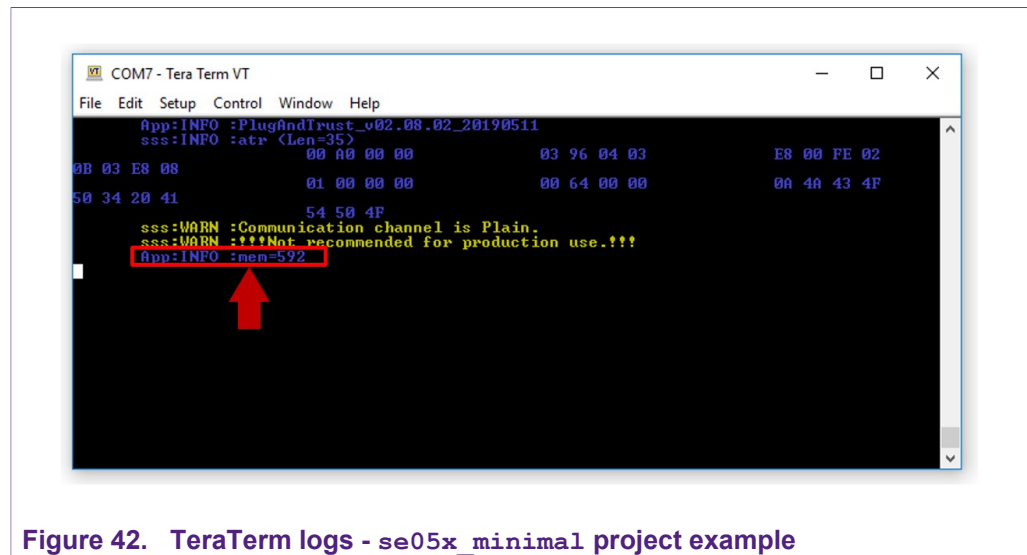

Figure 42. TeraTerm logs - se05x\_minimal project example
6. The project example should now be running into your FRDM-K64F. If it is running successfully, the TeraTerm logs should indicate the available memory in SE050 security IC (in this case, 592) as can be seen in Figure 42.